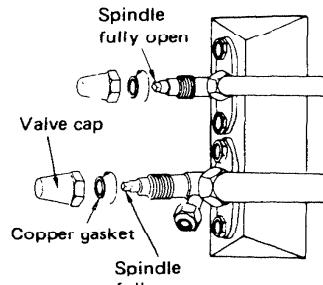

Fig. 38
- Next, re-install the valve caps in which copper gaskets have been inserted. Fig. 38